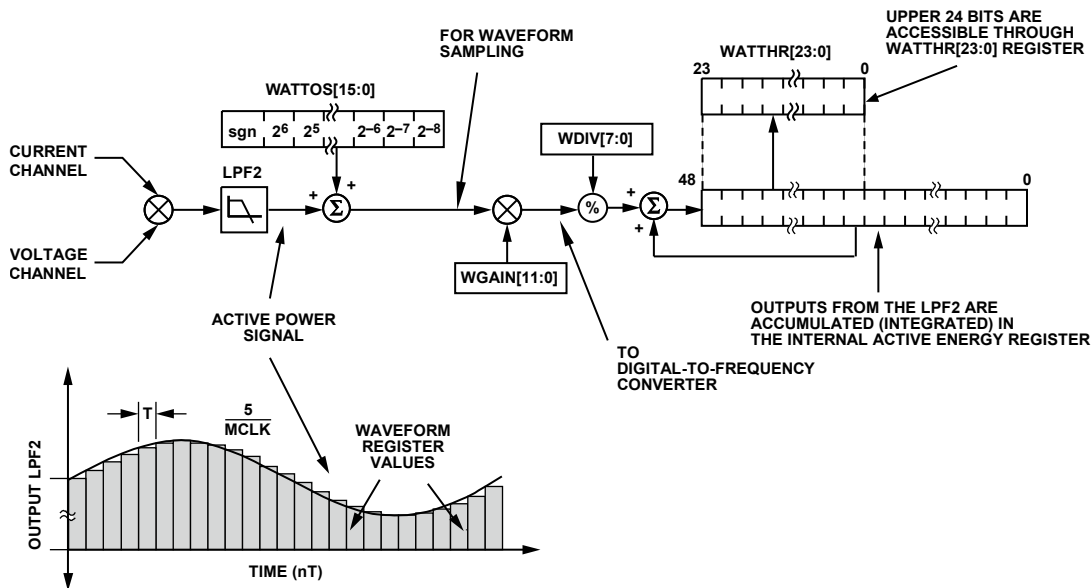

Figure 52. Active Energy Calculation
Figure 52 shows the signal processing chain for the active power calculation in the ADE7518. As explained previously, the active power is calculated by filtering the output of the multiplier with a low-pass filter. Note that when reading the waveform samples from the output of LPF2, the gain of the active energy can be adjusted by using the multiplier and watt gain register (WGAIN[11:0]). The gain is adjusted by writing a twos complement 12-bit word to the watt gain register. Equation 10 shows how the gain adjustment is related to the contents of the watt gain register.
The discrete time sample period (T) for the accumulation register in the ADE7518 is 1.22 μ s (5/MCLK). In addition to calculating the energy, this integration removes any sinusoidal components that may be in the active power signal. Figure 52
The output of the multiplier is divided by the value in the WDIV register. If the value in the WDIV register is equal to 0, the internal active energy register is divided by 1. WDIV is an 8-bit unsigned register. After dividing by WDIV, the active energy is accumulated in a 49-bit internal energy accumulation register. The upper 24 bits of this register are accessible through a read to the active energy register (WATTHR[23:0]). A read to the RWATTHR register returns the content of the WATTHR register, and the upper 24 bits of the internal register are cleared. As shown in Figure 52, the active power signal is accumulated in an internal 49-bit signed register. The active power signal can be read from the waveform register by setting the WAVMODE register (0x0D) and setting the WFSM bit in the Interrupt Enable 3 SFR (MIRQENH, 0xDB). Like the current and voltage channels waveform sampling modes, the waveform data is available at a sample rate of 25.6 kSPS, 12.8 kSPS, 6.4 kSPS, or 3.2 kSPS.